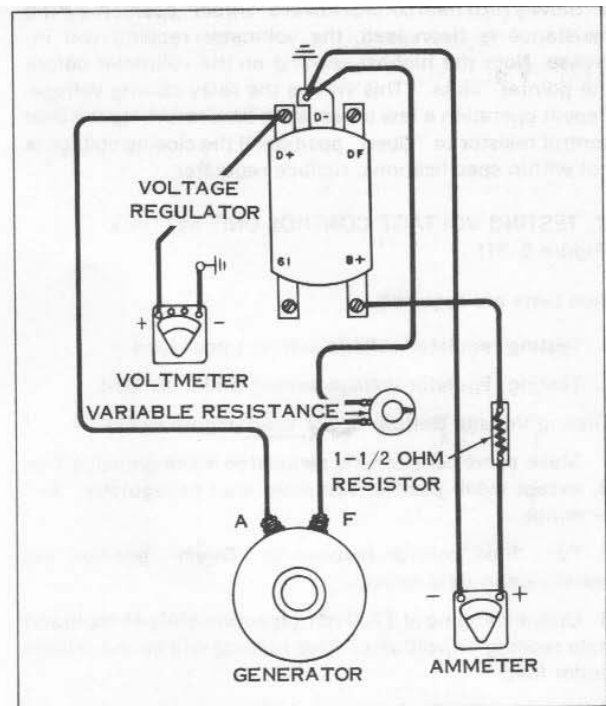

Figure 5-30.
A. TESTING GENERATING SYSTEM (Figure 5-30)
B. TESTING CUTOUT RELAY UNIT CLOSING VOLTAGE - SAME CONNECTIONS ARE USED AS IN TEST A (Figure 5-30)